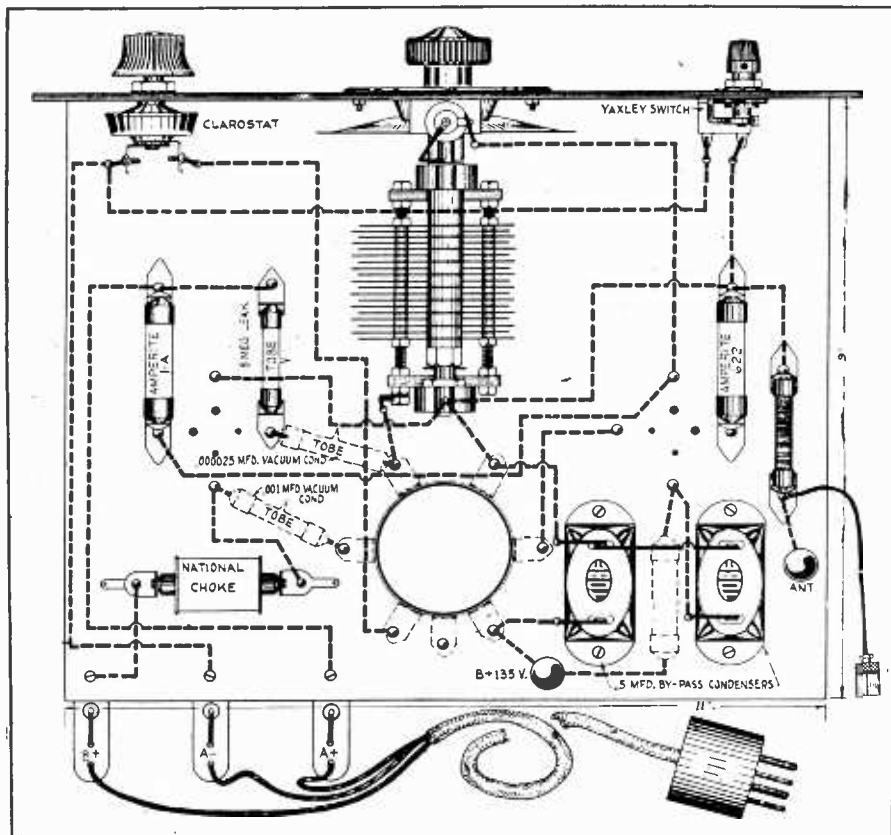

FIG. 720
(1) Yes. See page 18 of this issue for Perry S. Graffam's article on the National short wave adapter.
(2) See Fig. 720 for the picture diagram. The list of parts is given on page 18.